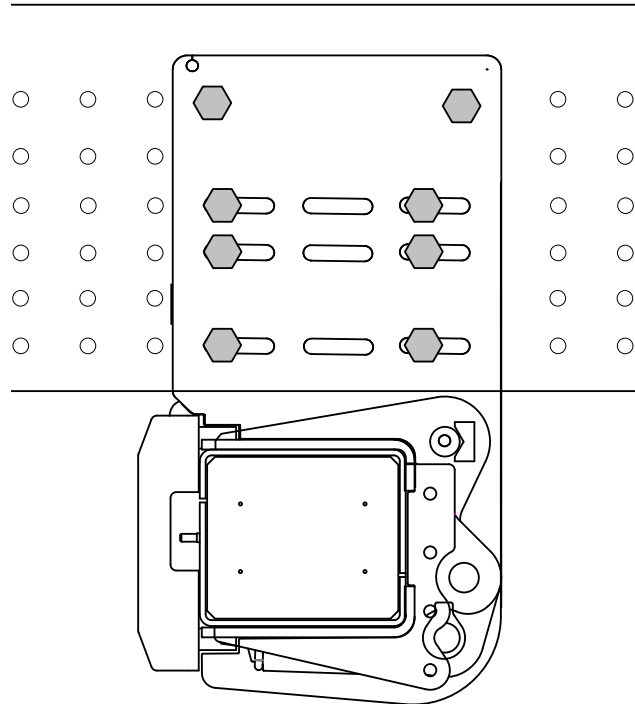

Figure 32. Install the frame mount to a vehicle frame with pre-drilled holes
15. Bolt the mountings securely on the exterior of the vehicle frame. Install in the slot-shaped holes with at least 6 screws. Use suitable bolts (strength M14 10.9 or higher) and install the associated washer and nut on the inside of the vehicle frame. Install the bolts but do not tighten. See Figure 32.
18. Drill holes in the vehicle frame for attachment bolts in each of the brackets' two upper round holes. Use suitable bolts (strength M14 10.9 or higher) and install the associated washer and nut on the inside of the vehicle frame. See Figure 32. Tighten the bolts with a torque wrench. **Tightening torque: Standard for selected screw.**